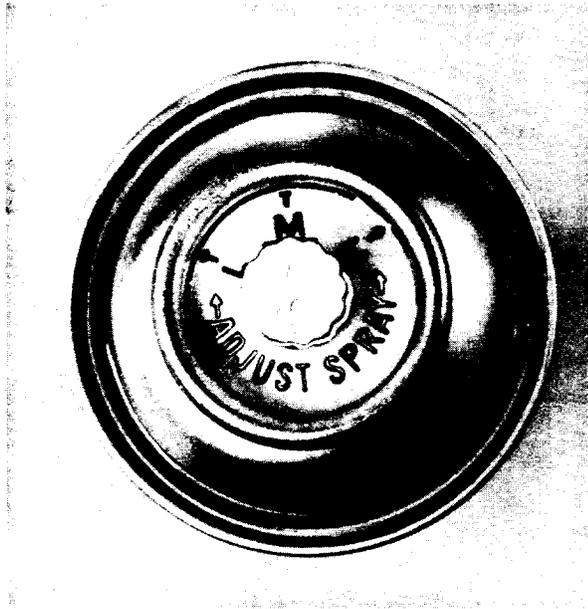

Fig. 2—Actuator Spray Nozzle
**4.03** Apply the C insulation spray holding the can about 10 inches from the wirework and spraying evenly over the entire bundle of wires. Ensure that all wires are completely covered with the insulation spray. If excess spray is applied, the spray will run and drip. Adjust the spray pattern by turning the actuator nozzle on the can (Fig. 2).